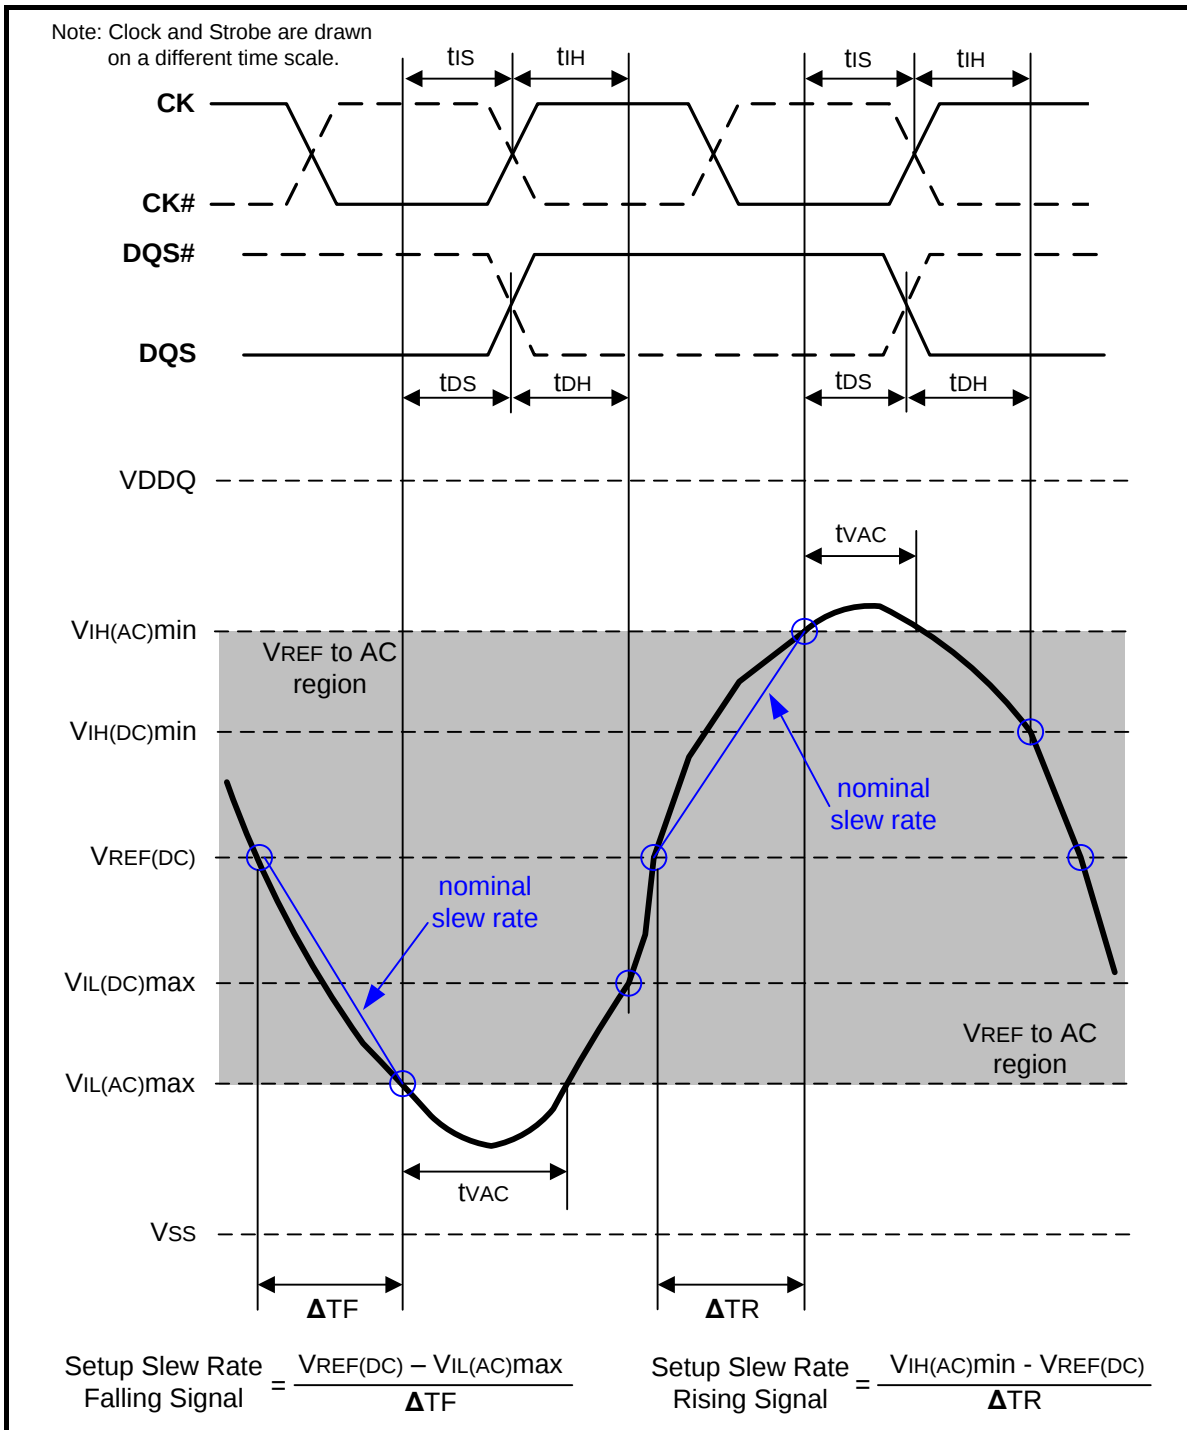
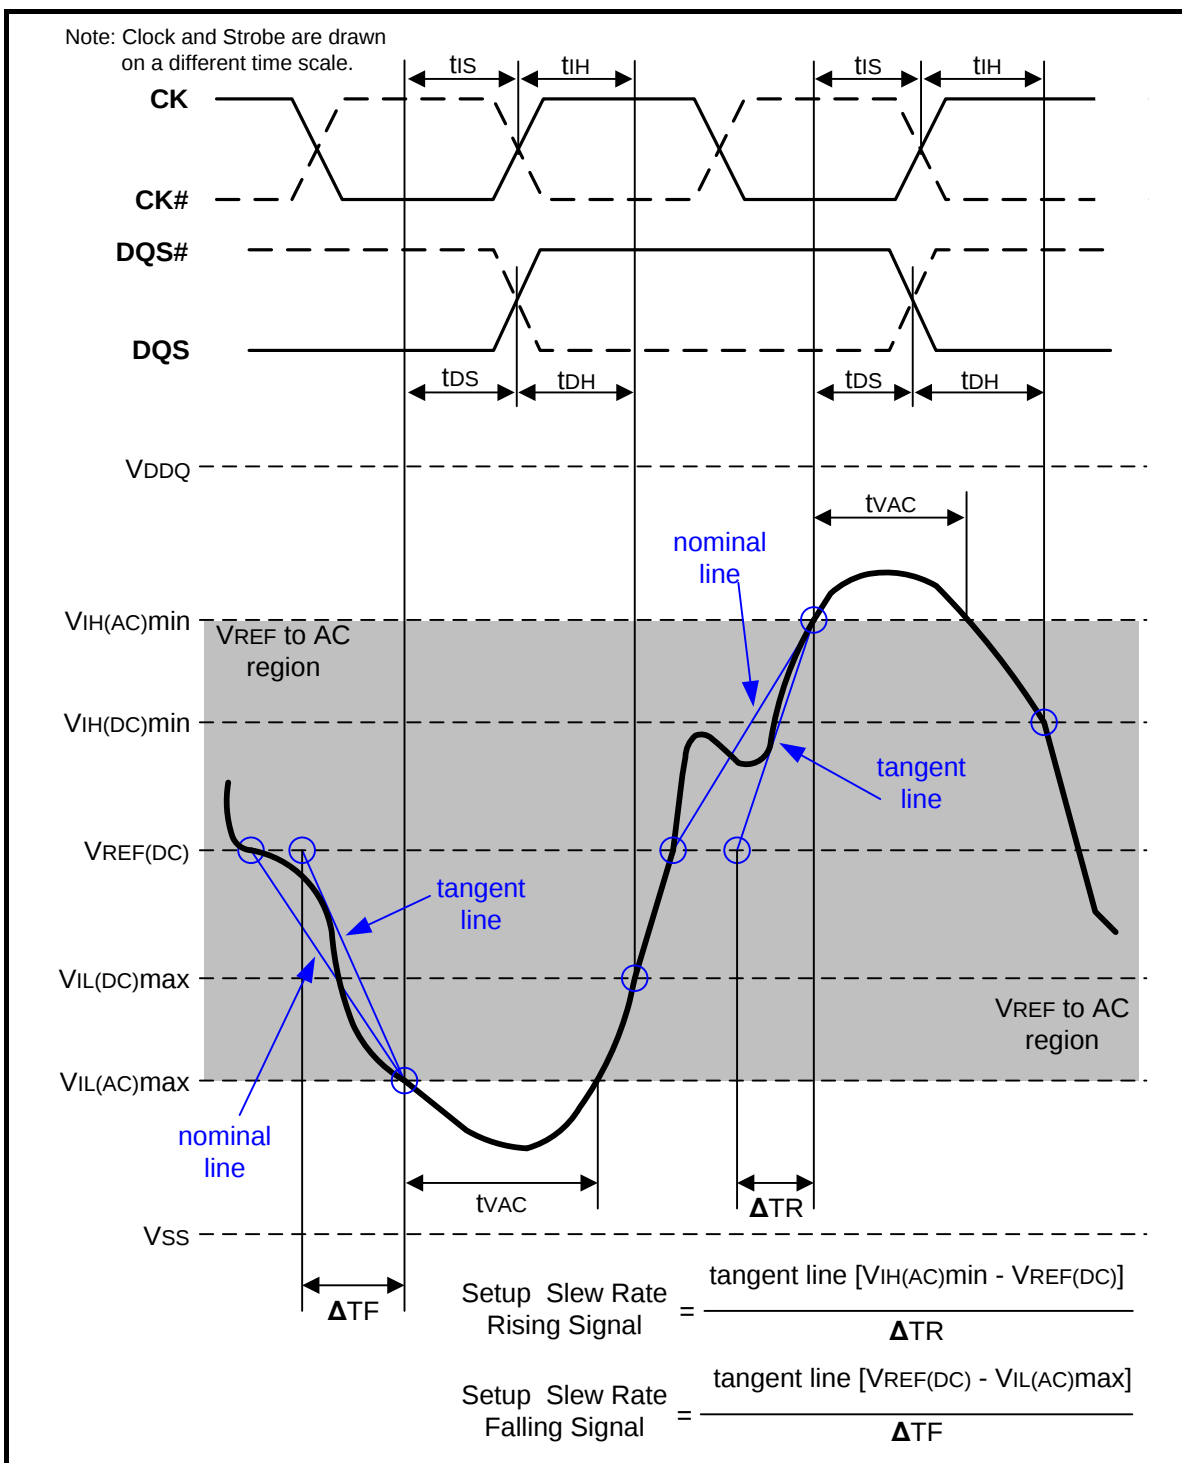

Figure 107 – Illustration of nominal slew rate and t_{VAC} for setup time t_{DS} (for DQ with respect to strobe) and t_{IS} (for ADD/CMD with respect to clock)
Figure 109 – Illustration of tangent line for setup time t_{DS} (for DQ with respect to strobe) and t_{IS} (for ADD/CMD with respect to clock)
Setup (t_{IS}) nominal slew rate for a rising signal is defined as the slew rate between the last crossing of $V_{REF}(\text{DC})$ and the first crossing of $V_{IH}(\text{AC})_{\text{min}}$. Setup (t_{IS}) nominal slew rate for a falling signal is defined as the slew rate between the last crossing of $V_{REF}(\text{DC})$ and the first crossing of $V_{IL}(\text{AC})_{\text{max}}$. If the actual signal is always earlier than the nominal slew rate line between shaded 'VREF(DC) to AC region', use nominal slew rate for derating value (see Figure 107). If the actual signal is later than the nominal slew rate line anywhere between shaded 'VREF(DC) to AC region', the slew rate of a tangent line to the actual signal from the AC level to DC level is used for derating value (see Figure 109).
Setup (t_{DS}) nominal slew rate for a rising signal is defined as the slew rate between the last crossing of $V_{REF}(\text{DC})$ and the first crossing of $V_{IH}(\text{AC})_{\text{min}}$. Setup (t_{DS}) nominal slew rate for a falling signal is defined as the slew rate between the last crossing of $V_{REF}(\text{DC})$ and the first crossing of $V_{IL}(\text{AC})_{\text{max}}$ (see Figure 107). If the actual signal is always earlier than the nominal slew rate line between shaded 'VREF(DC) to AC region', use nominal slew rate for derating value. If the actual signal is later than the nominal slew rate line anywhere between shaded 'VREF(DC) to AC region', the slew rate of a tangent line to the actual signal from the AC level to DC level is used for derating value (see Figure 109).